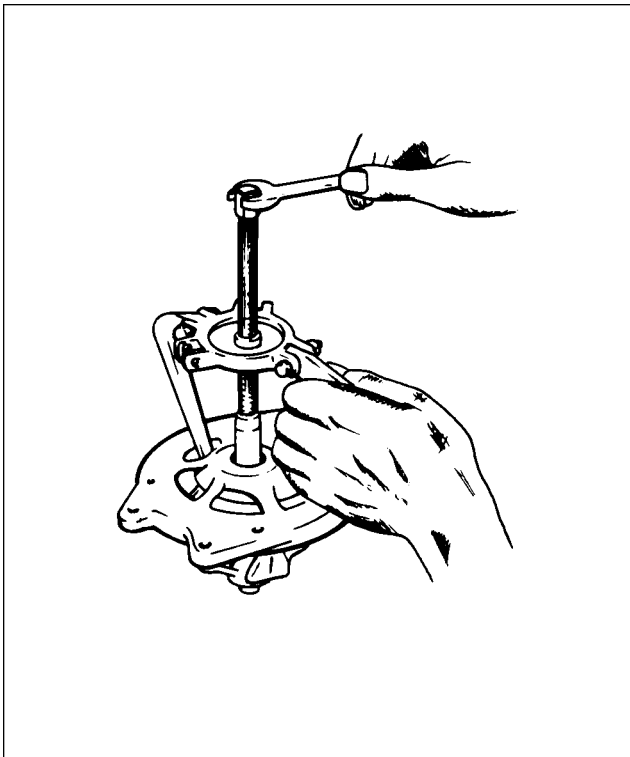
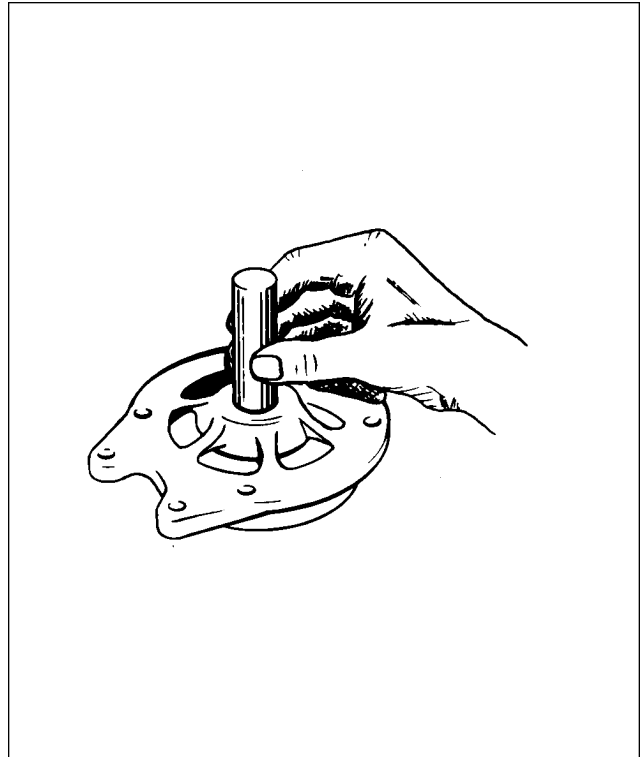

Figure 24-6. Removal of Drive End Head
Figure 24-7. Removal of End Head Bearing
6. To remove the drive end head from the rotor shaft, use a Puller that grips on the bearing retainer plate as shown in Figure 24-6. Do not attempt to remove by supporting the end head and pressing on the shaft, as this may result in distortion of the end head or stripping of the retainer plate screws. Remove the three retainer plate screws and press the bearing out of the end head. (Refer to Figure 24-7.)